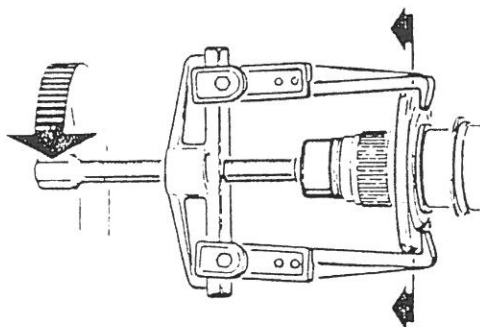

Figure 4
5. The grease valve disk (17) is removed after removal of the bearing inner race. If the grease valve disk and end piece seize, remove the disk by using the puller as shown in figure 4. The claws of the tool to rest against the bearing housing cover (18).